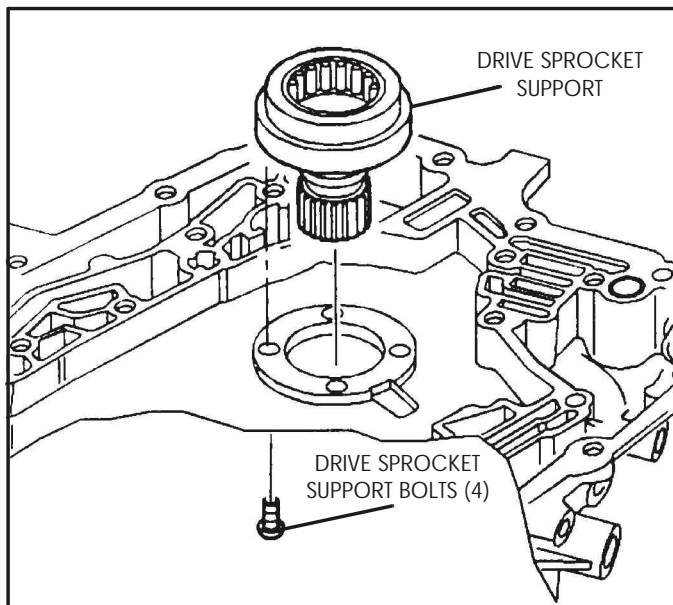

Figure 81
5. Install the drive sprocket support into the case and torque the four bolts to 18 ft.lb. Refer to Figure 81.